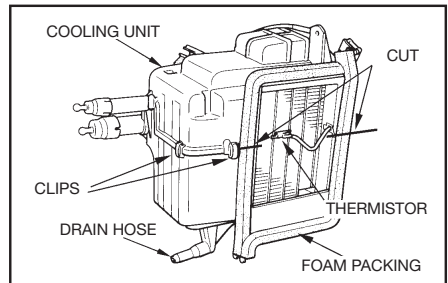

Fig. 3
2. Separate the cooling unit's case and remove the evaporator assembly following the vehicle manufacturer's recommended procedures (See Fig. 3).